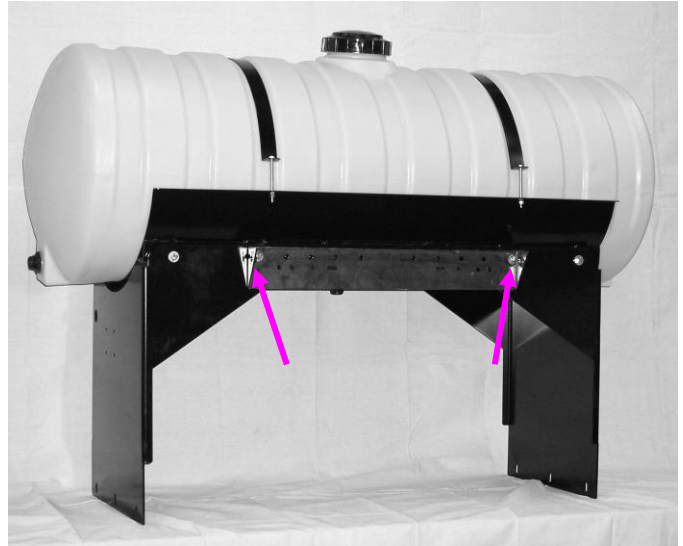

Figure 2
2. Connect the pump plate mounting bracket (001-4646C), shown in Figure 2, on the remaining two inside holes, using two 3/8 x 1 1/2 bolts, nuts, locks, and flat washers. Tighten all eight 3/8 inch bolts.